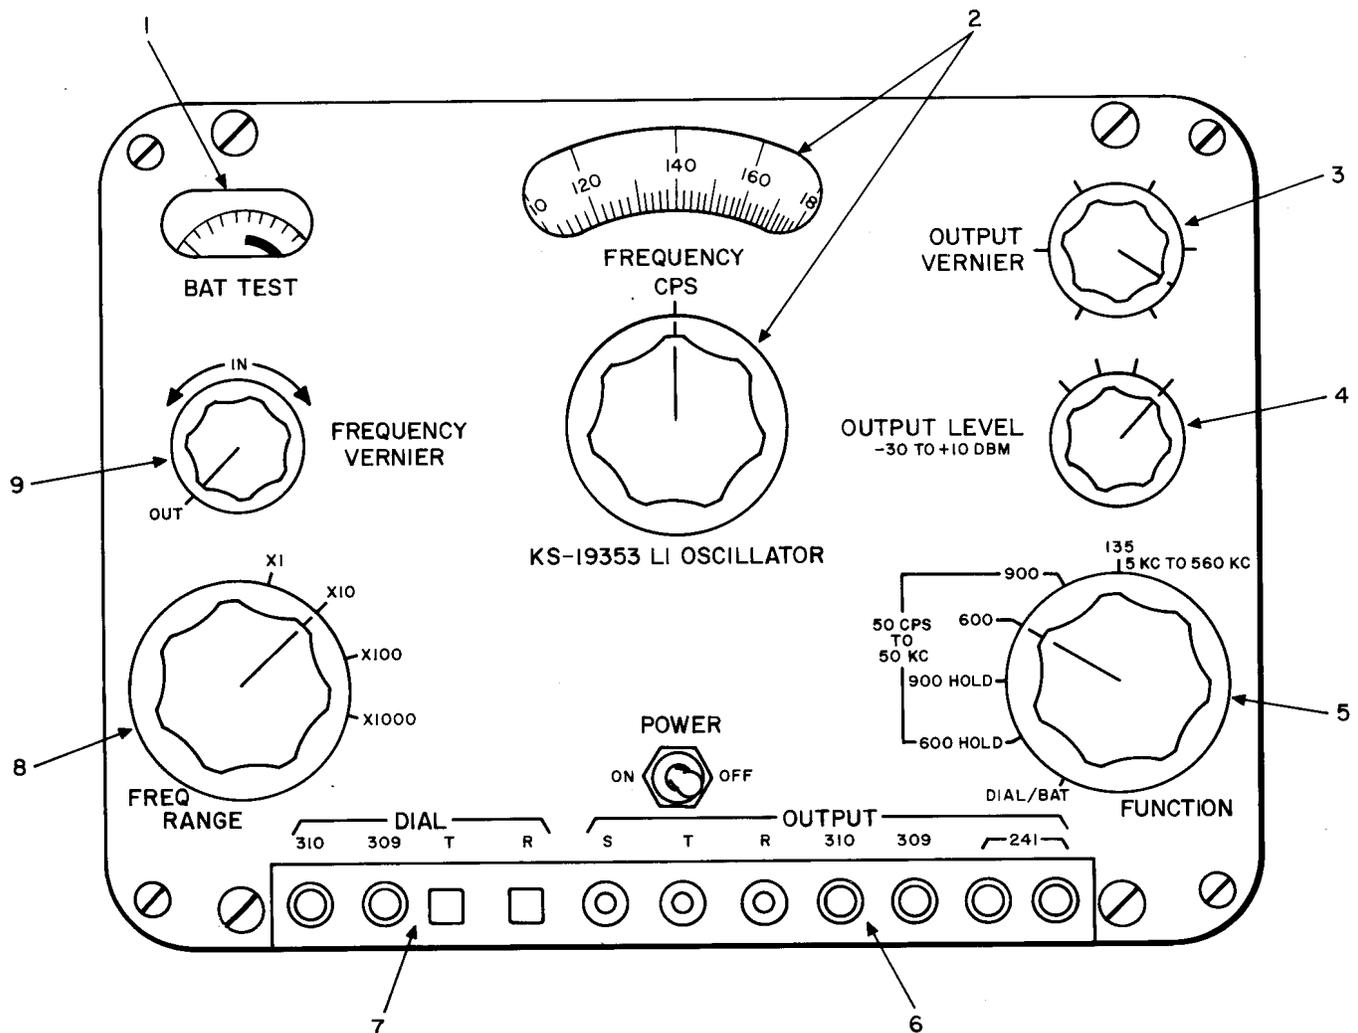

Fig. 4-23—KS-19353, L1 Oscillator
(1) Connect the output of oscillator to the circuit under test, 600 or 900 ohms. (Do not use both 600Ω and 900Ω outputs at the same time.)
(2) Select desired frequency using MULTIPLIER push button and FREQUENCY push buttons. Example: If the desired frequency is 4730 Hz, depress MULTIPLIER X10 CPS, and FREQUENCY pushbuttons as follows; 1st row number 4, 2nd row number 7, and 3rd row number 3.
(3) Operate OUTPUT LEVEL controls for desired output power level.
**KS-19353 L1 Oscillator (Fig. 4-23)**